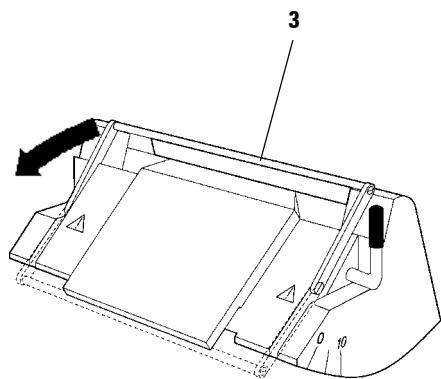

Fig. 6.2
Knife holder E (Fig. 6.2) is equipped with a tilting shackle (3) which functions as a knife guard.